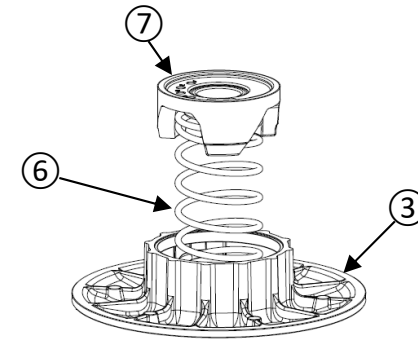

Figure 30
- Place the spring ⑥ lugs into the proper cam ⑦ hole and the proper sliding sheave ③ hole at the same positions noted during the disassembly steps (figure 30).